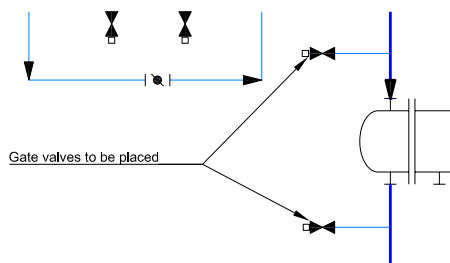

Figure 2-63 Locations of the secondary lines and gate valves
17. Similarly, create secondary lines and place the gate valves at the locations shown in Figure 2-63.